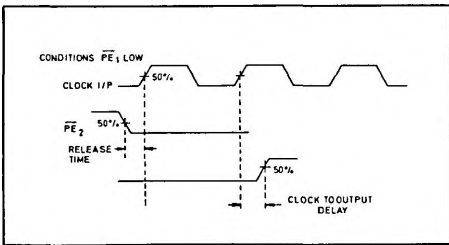

Fig. 4 Release timing diagram
- Release time is defined as the minimum time that can elapse between a H \rightarrow L transition of a control input and the next L \rightarrow H clock pulse transition to ensure that the \rightarrow 4 mode is forced by that clock pulse (see Fig. 4.)